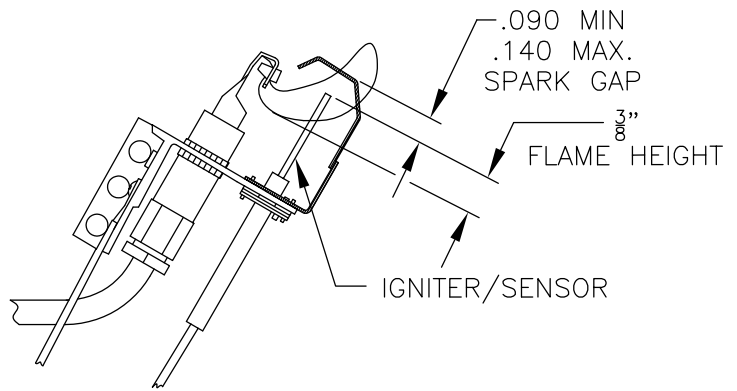

FIG. 64
17. CHECK PILOT FLAME. Flame should be a blue medium hard flame enveloping approximately 3/8" of the end of the thermocouple, flame sensor, or sensing probe, see Fig. 64 thru 67.
The EI Control System utilizes a Honeywell Q3481B pilot. Flame should be adjusted by means of the pilot line regulator 5.5" WC pilot line press so that a medium hard center flame envelopes approximately 3/8" of the end of the sensing probe, see Fig. 64. If flame is yellow, primary air slot may be covered with dirt or lint. This can be removed with a soft brush or by vacuuming.
- a. To adjust or check spark gap between electrode and hood on Honeywell Q3481B intermittent pilot. (See Fig. 64)